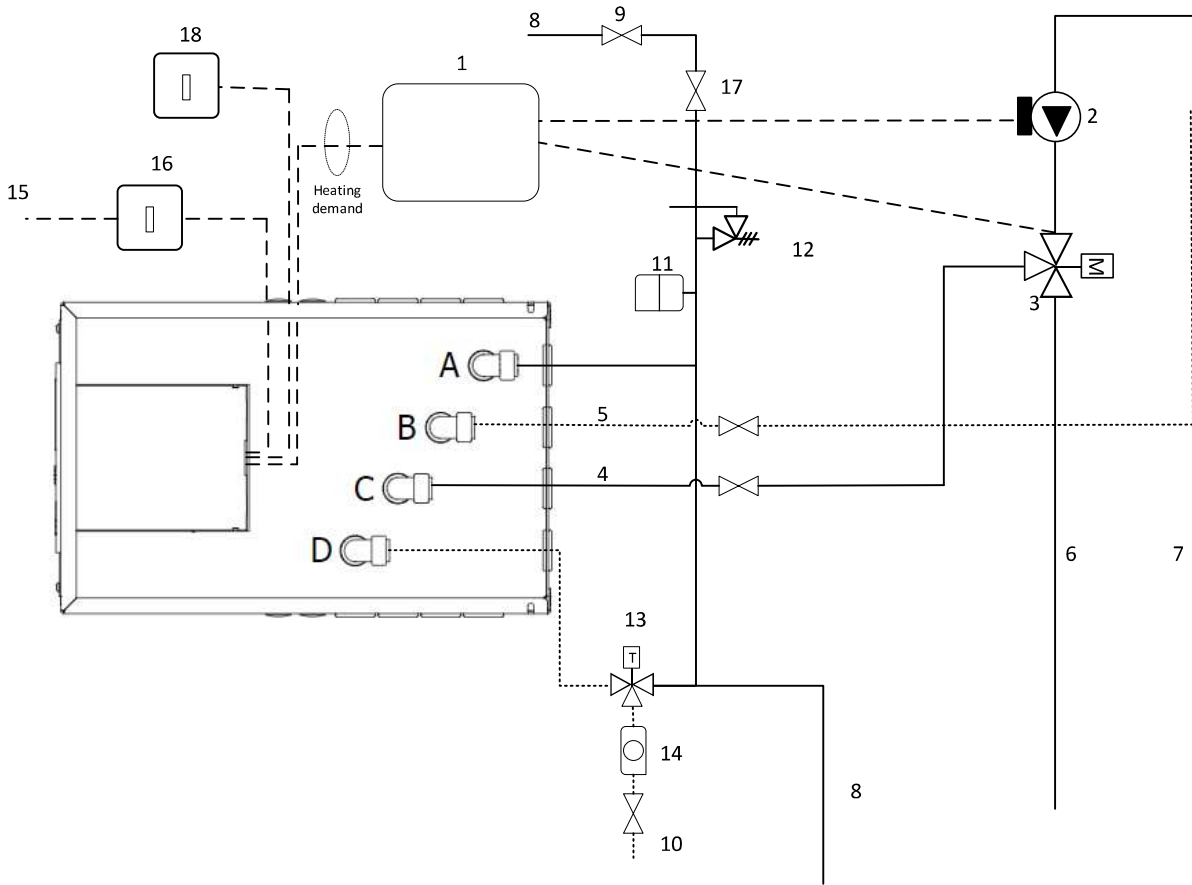

Figure 13.1: Example Wiring Option 2 Schematic (see Figure 3 for piping and electrical options available)
- Run and connect 3 Core mains power supply cable (16A, minimum 2.5mm² CSA) from the local 2-pole isolator 13A to the Heat Battery controller (Figures 13.1 and 13.2).